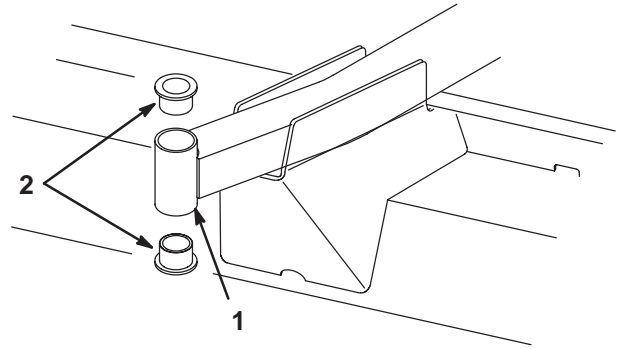

Figure 26
4. Insert a pin punch into the top or bottom of the mounting tube and drive the bushing out of the tube. Also drive the other bushing out of the tube (Fig. 26). Clean the inside of the tubes to remove dirt.